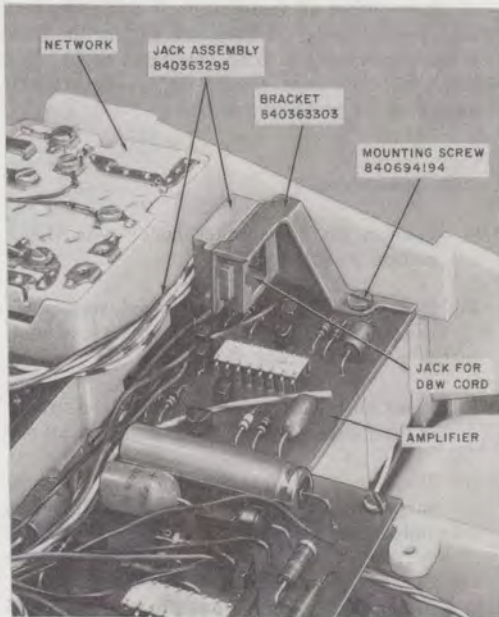

Fig. 41—Installation of Personal Line Jack Assembly
- (3) Install the jack assembly as described in paragraph 3.52(a)(3).
- (4) Replace the DSS key (paragraph 5.24) and the faceplate (paragraph 5.09).
- (5) Turn the set over and attach the modular jack to the chassis through the right-hand edge of the amplifier with the bracket and screw from the kit of parts (Fig. 41).